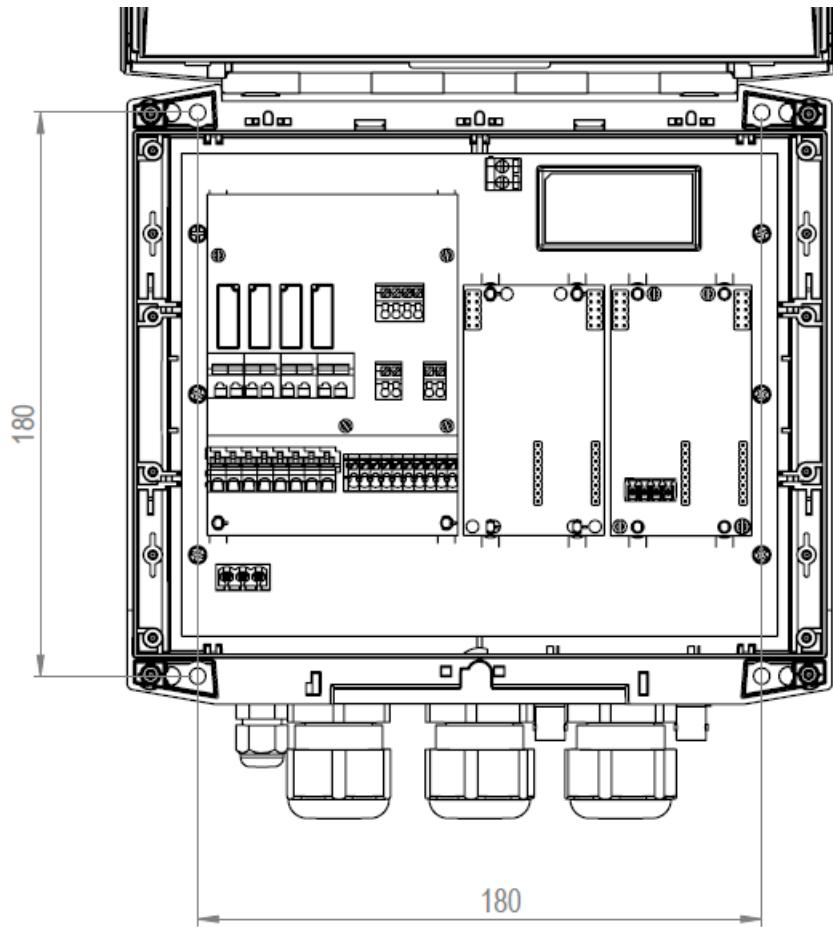

Fig. 2 - Measurements for wall fixing 229l x 204h
Comply with standards in force in the different countries regarding electrical installation (Fig. 2). The instrument is supplied with no power cord. **The device must be connected to the mains by means of an omnipolar disconnecting switch with at least 3 mm between the contacts. All the power supply circuits must be interrupted before accessing the connection devices.**
The wall-mounting plugs are supplied with the device. **Always use a plug suitable to the available support.** The layout of the holes to be drilled on the support is displayed in Figure 2.
To access the 4 installation holes, remove the covers on the installation points (A) found on each corner of the instrument, use a Phillips screwdriver to loosen the four screws underneath the covers, then open the front panel (see Fig.2).